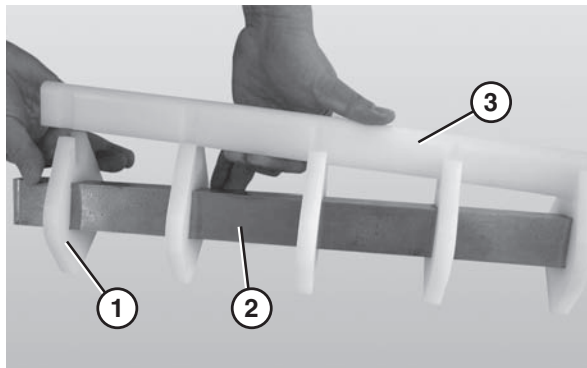

Figure 66
- Remove the nose bar wear strip (**Figure 66, item 3**).
- Slide the nose bar pucks (**Figure 66, item 1**) off the nose bar shaft (**Figure 66, item 2**).